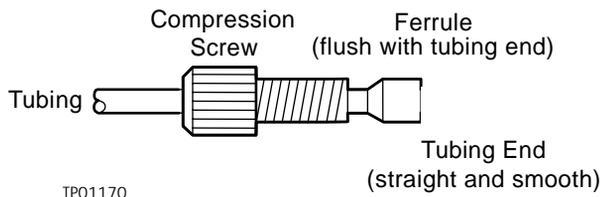

Figure 2-5 Reverse Ferrule and Compression Screw Assembly
4. Slide a compression screw over one end of the tubing, followed by a ferrule with its tapered end facing away from the tubing end, and its wide end flush with the tubing end, as shown in Figure 2-5.